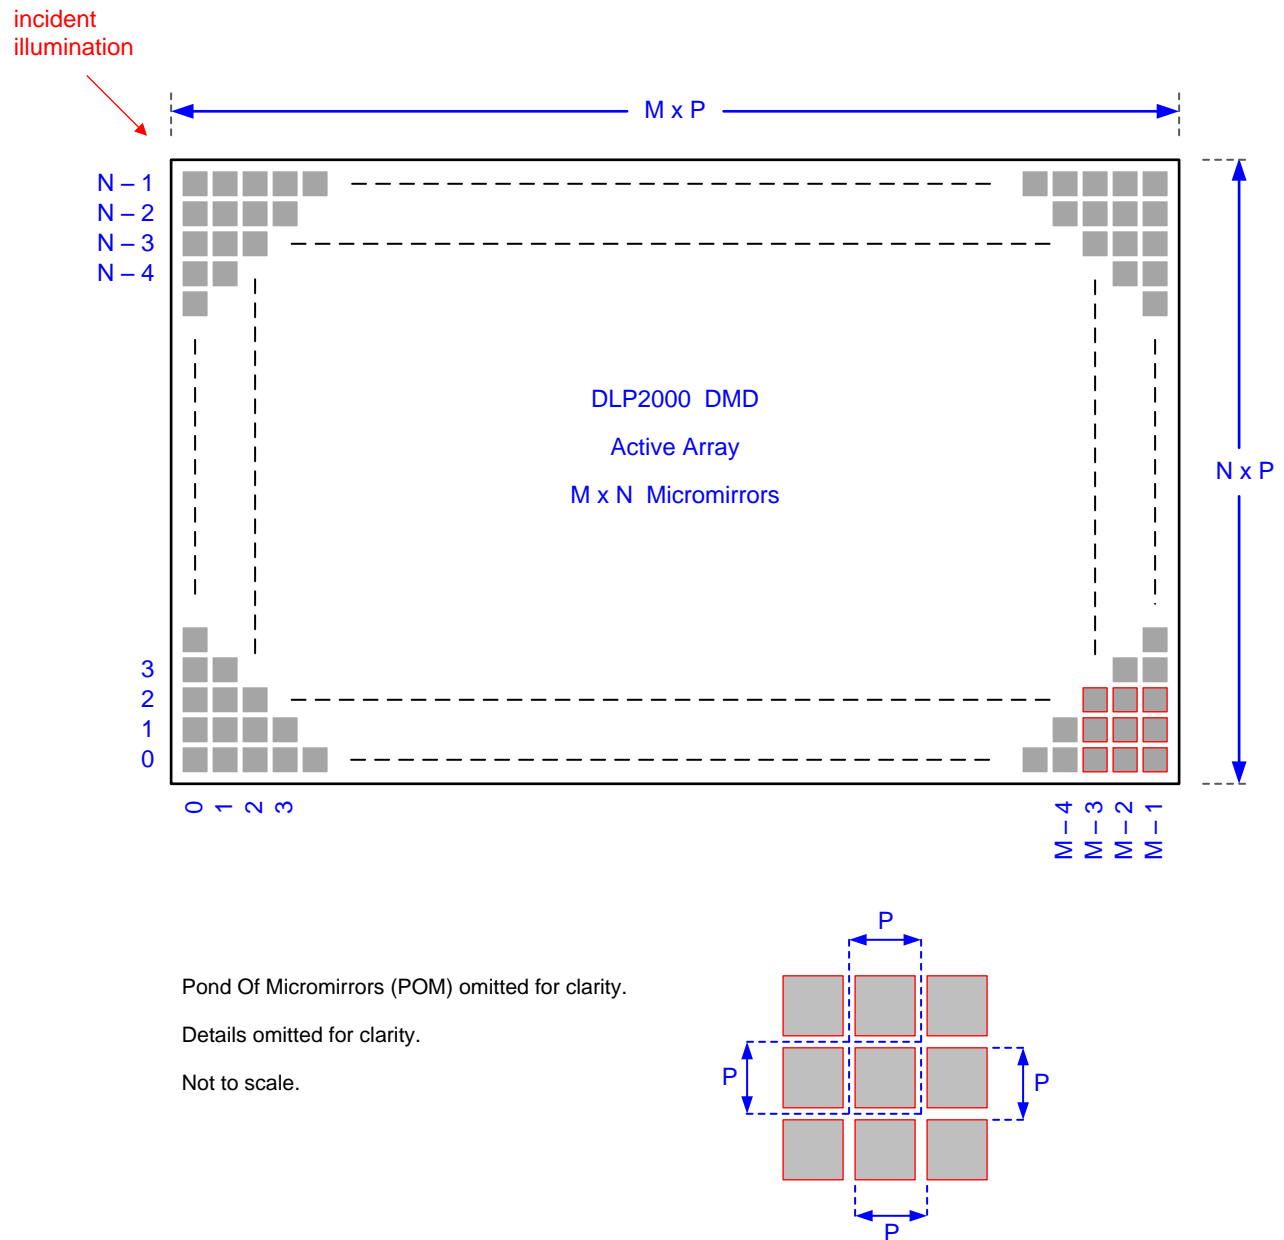

Figure 8. Micromirror Array Physical Characteristics
- (1) See Figure 8.
- (2) The structure and qualities of the border around the active array include a band of partially functional micromirrors called the “Pond of Micromirrors” (POM). These micromirrors are structurally and/or electrically prevented from tilting toward the bright or “on” state but still require an electrical bias to tilt toward “off.”
- (3) Out of the 8 POM rows on the top and bottom, only the 1 POM row closest to the active array is electrically attached to that reset group. The other 7 POM rows are attached to a dedicated POM internal reset driver circuit.